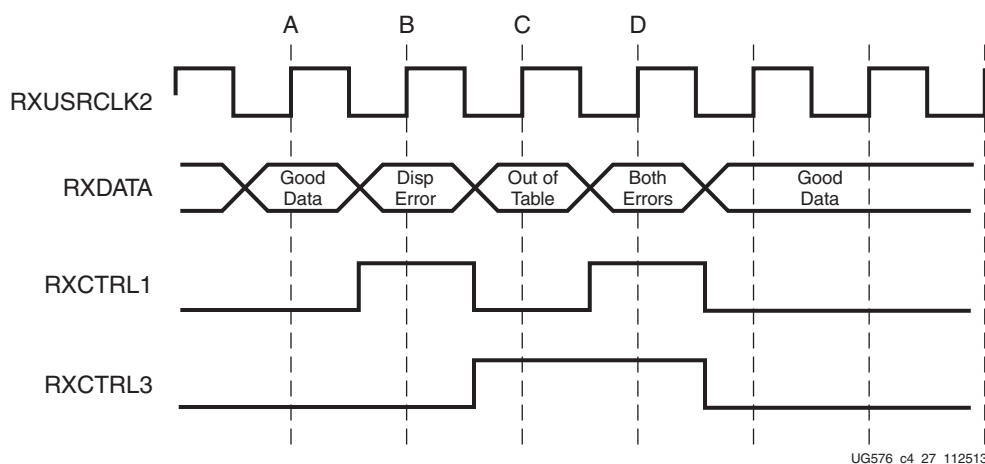

Figure 4-27: RX Data with 8B/10B Errors
Figure 4-27 shows a waveform at the RX data interface when the decoder receives good data (A), data with disparity error (B), an out-of-table character (C), and an out-of-table character with disparity error (D).